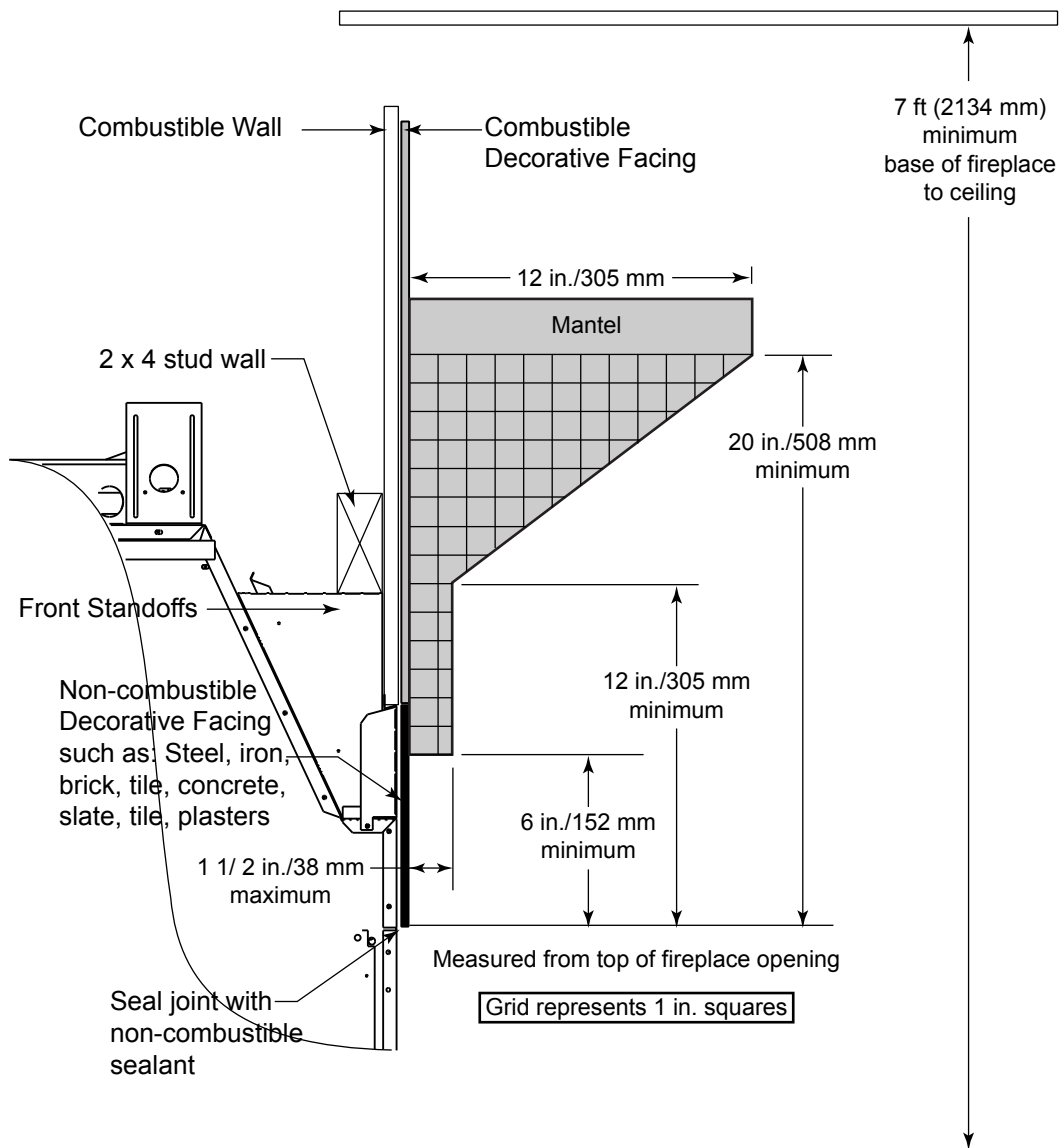

Figure 11.11 Clearances to Mantels or other Combustibles above Fireplace
- Refer to the shaded areas of Figure 11.11 for locations and dimensions of a combustible mantel.